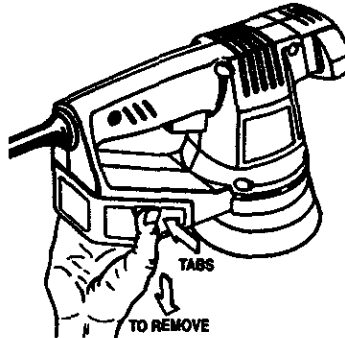

Fig. 7
See Figure 7.
- Slide dust box down and lift from sander as shown by the arrows in figure 7.